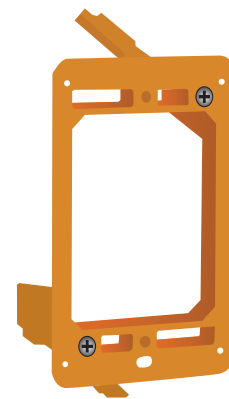

Fig 1. Single-gang, low-voltage mounting bracket.
1. Cut an opening in the wall of the isolation room to receive the supplied single-gang “old work” low voltage mounting bracket (Figure 1) for the remote sensor module. Nominal dimensions for the cutout are 3.65” H x 2.15” W. Drill a 7/16” hole through the opposite wall for the flow tube.
1. Cut an opening in the wall adjacent to the door of the isolation room for installing the supplied single-gang “old work” low voltage mounting bracket (Figure 1) for the touchscreen display module. Nominal dimensions for the cutout are 3.65” H x 2.15” W.